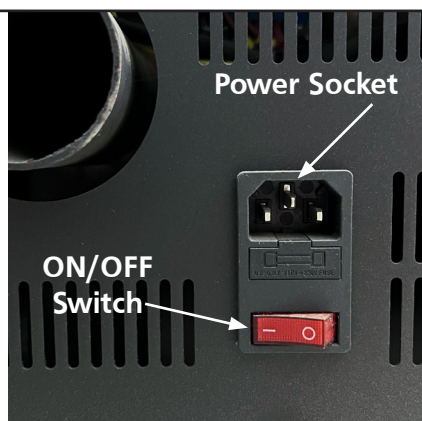

Figure 16 Power Socket/ON/OFF Switch
1. Plug power cord into socket on the rear bottom of stove and press the red ON/OFF toggle switch above it to ON. See Figure 16.